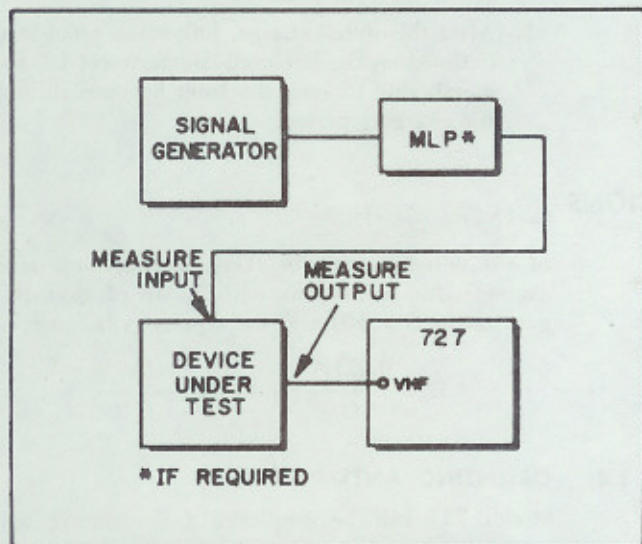

Fig. 3-1. Setup for Gain and Loss Measurements
1. Set up the equipment as shown in Fig. 3-1.